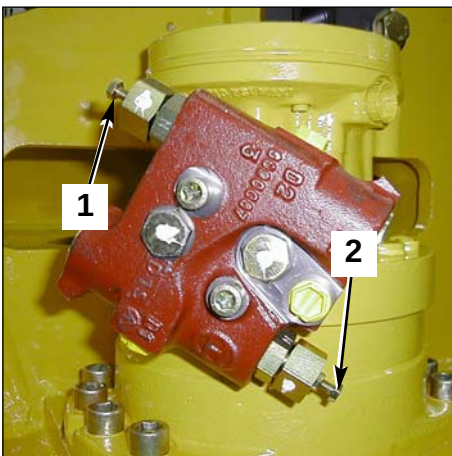

Fig. 2 CROSS OVER unit
- 3- Loosen the lock nut and turn the screw (1 fig. 2) of the CROSS OVER valve clockwise in order to increase the ΔP of the right side.